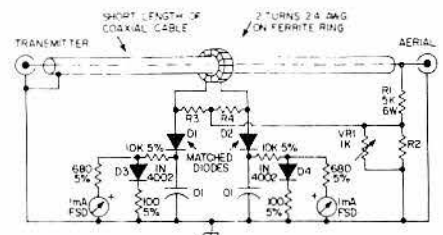
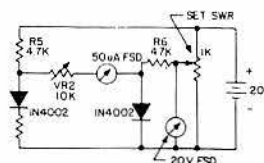

Fig. 9. Complete circuit for a power-independent, frequency-independent direct-reading SWR meter.
Fig. 13. Circuit used to calibrate SWR meters (see text).
In Fig. 9, the two silicon diode voltages are proportional to the logarithms of their currents, which in turn are proportional to the forward and reflected voltages. The two diode voltages can be subtracted directly by connecting a meter between them, rather than from each one to chassis.
A differential amplifier could be added to the circuit of Fig. 9, to enable a less sensitive meter to be used.
Disconnect  $R_5$  and  $R_6$ , Fig. 9, from the detectors, and connect them instead as shown in Fig. 13. One voltage is fixed at about 20 volts, and the other is varied between zero and 20 volts. The ratio of these voltages corresponds to a definite SWR which can be determined from equation (1). Before carrying out this procedure, however, VR2 should be set for full scale deflection of the meter under matched conditions at the highest power level to be used.